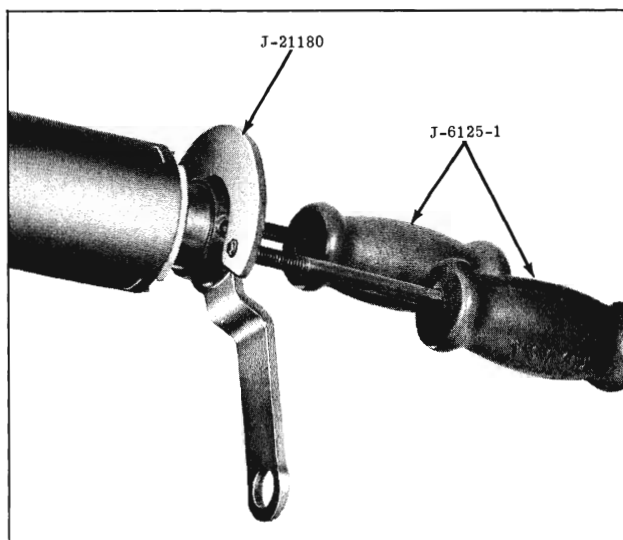

Fig. 4-97 Removing Shift Tube
4. Remove the shift tube from the lower end of the mast jacket using Tool J-21180 and two Slide Hammers J-6125-1. (Fig. 4-97)